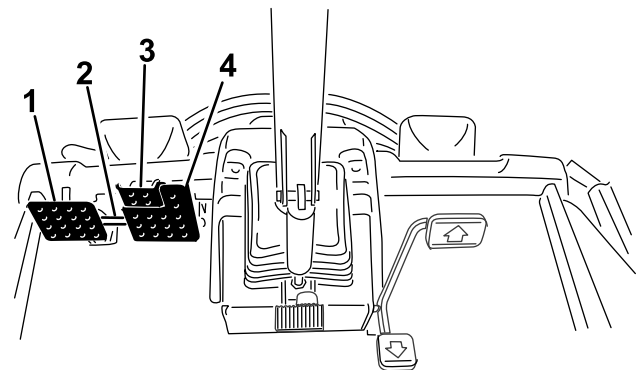

Figure 30
- Disconnect the pedal-locking latch (Figure 30).